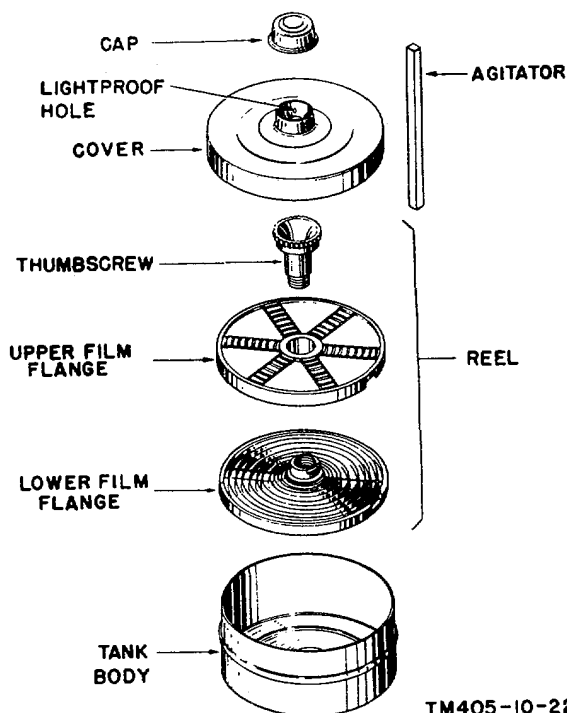

Figure 31. Task PH-186 or Photographic Processing Tank FM-12(1).
- (14) When the desired developing time has elapsed, pour out the developer solution.
- (15) Rinse, fix, and wash the negatives (par. 26).
**25. Developing Roll Film (fig. 31)**